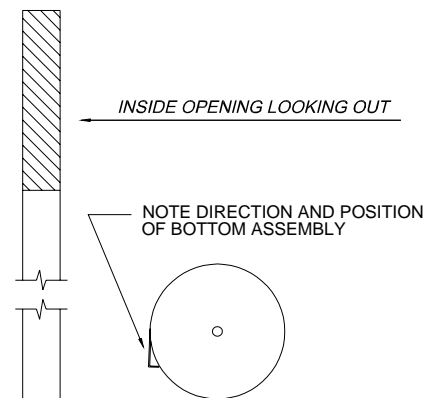

Figure 3.
4.1 Position the door in the opening as shown in Figure 3. Be sure to place the door on protective material to prevent damage to the curtain.